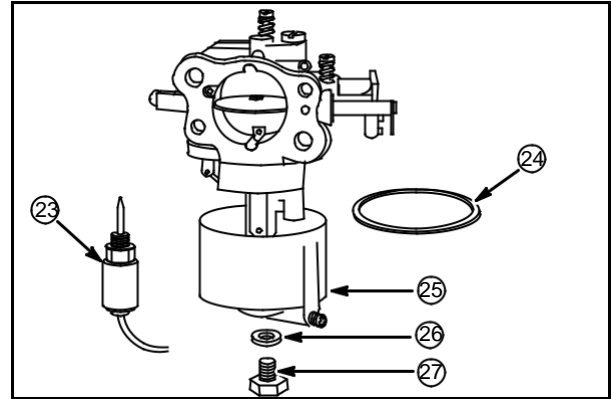

Fig. 40
Install bowl gasket (24), float bowl (25), washer and screw (27) or anti-afterfire solenoid (23), if equipped, **Fig. 40.**